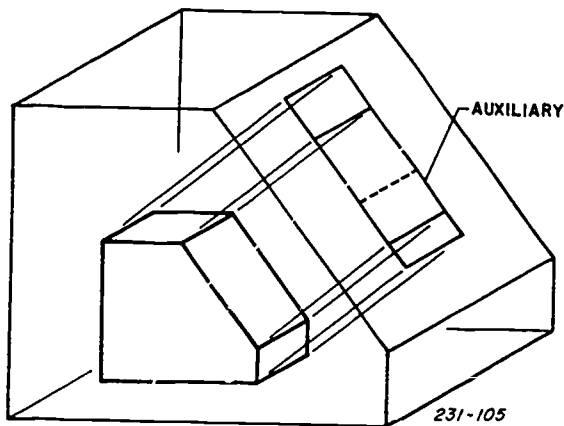
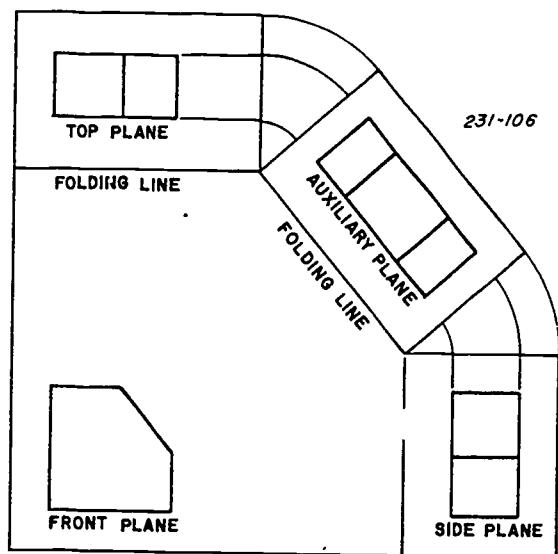

Figure 4-73. Auxiliary plane position.
Figure 4-74. Complete auxiliary.
**Glass-Box Method.** Figure 4-73 shows an object with an inclined face inclosed in a glass box. Notice that the auxiliary plane is parallel with the inclined face. Therefore, the projection of the inclined face on this plane is true size and shape. Using the same method of opening the glass box as shown in figure 4-74, the various planes are hinged around the front plane and are rotated until they coincide (lie in the same plane) with the front plane. The result of this rotation is shown in figure 4-74.
Remember that the auxiliary plane is imagined to be hinged to the plane to which it is perpendicular and is revolved into the plane of the paper, as shown in figure 4-74.